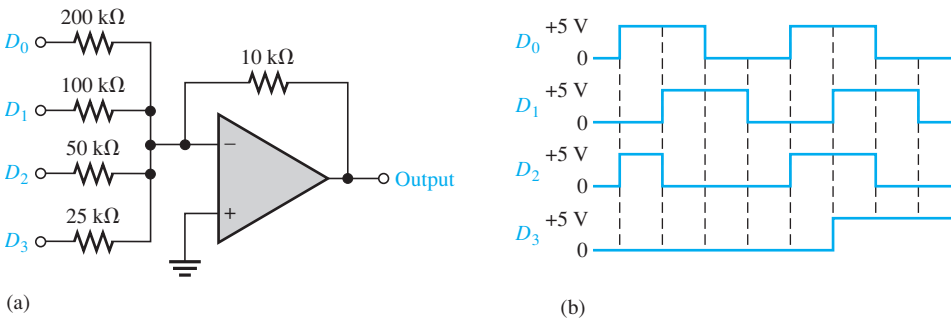

FIGURE 14-65
10. Determine the output of the DAC in Figure 14-65(a) if the sequence of 4-bit numbers in part (b) is applied to the inputs.